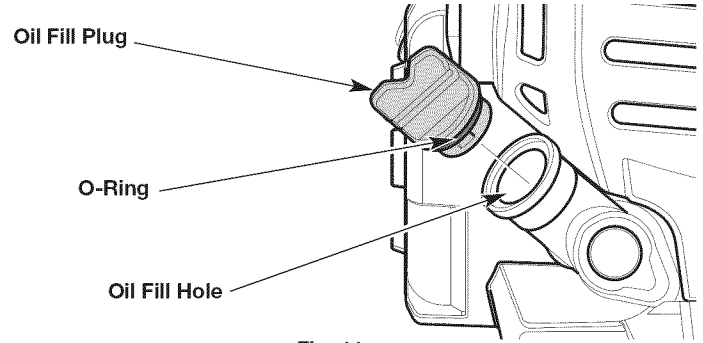

Fig. 11
2. Unscrew the oil fill plug (Fig. 11).
3. Pour the entire container of oil into the oil fill hole (Fig. 11). **DO NOT** overfill. Refer to *Checking the Oil Level*.
5. Make sure the O-ring is in place on the oil fill plug (Fig. 11).